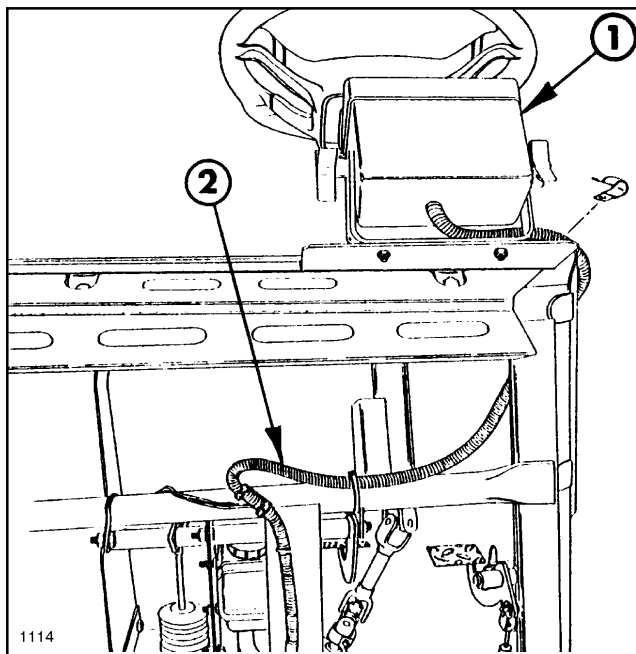

FIG. 6
5. Route the control cable under the dash and through the hole in the floorboard. See Fig. 6. Loosen the bolts on the channel under the floorboard and feed the cable through the channel.